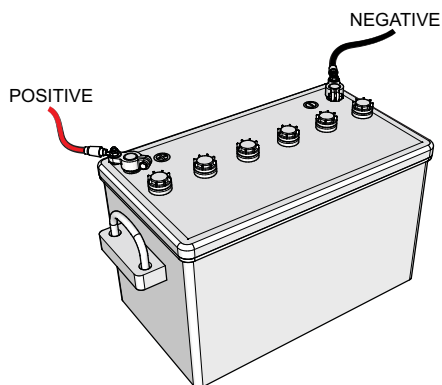

Figure 38. Battery Connections
**ALWAYS** be sure the battery cables are properly connected to the battery terminals (Figure 38). The **red** cable is connected to the positive terminal of the battery, and the **black** cable is connected to the negative terminal of the battery.